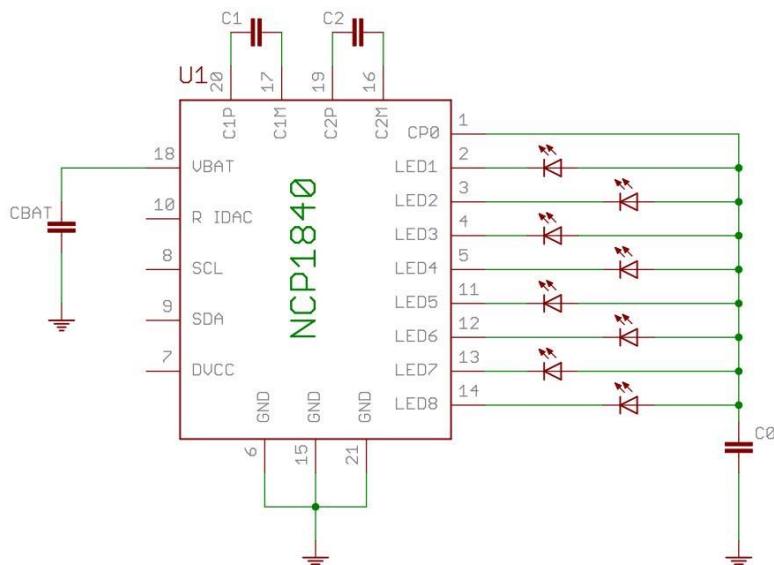

Figure 16. Schematic Showing Charge Pump and Decoupling Capacitors
4. Use good-quality X5R or X7R ceramic capacitors for  $C_0$ ,  $C_1$ ,  $C_2$ , and  $C_{BAT}$  – see Figure 16.